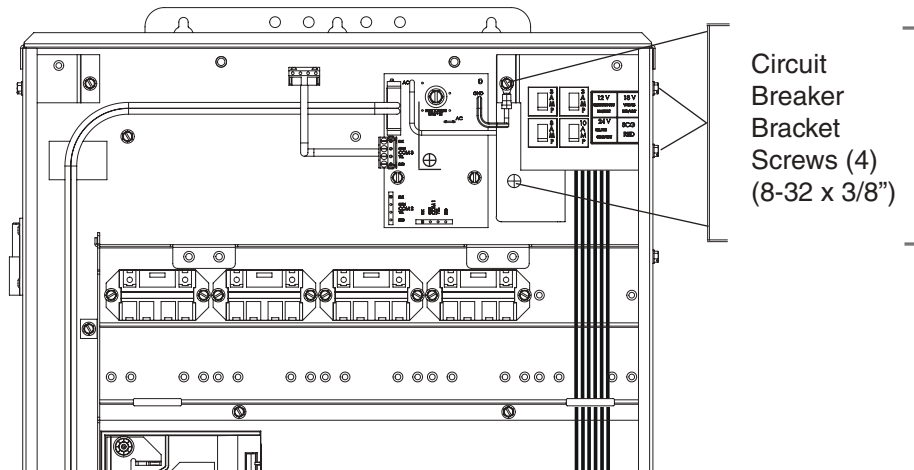

Figure 4. Circuit Breaker Bracket
1. **Remove the circuit breakers and bracket with transformer:** Remove the two side screws on the side of the enclosure, and the screws on the back of the enclosure securing the circuit breaker bracket. See Figure 4. Discard the existing system transformer.